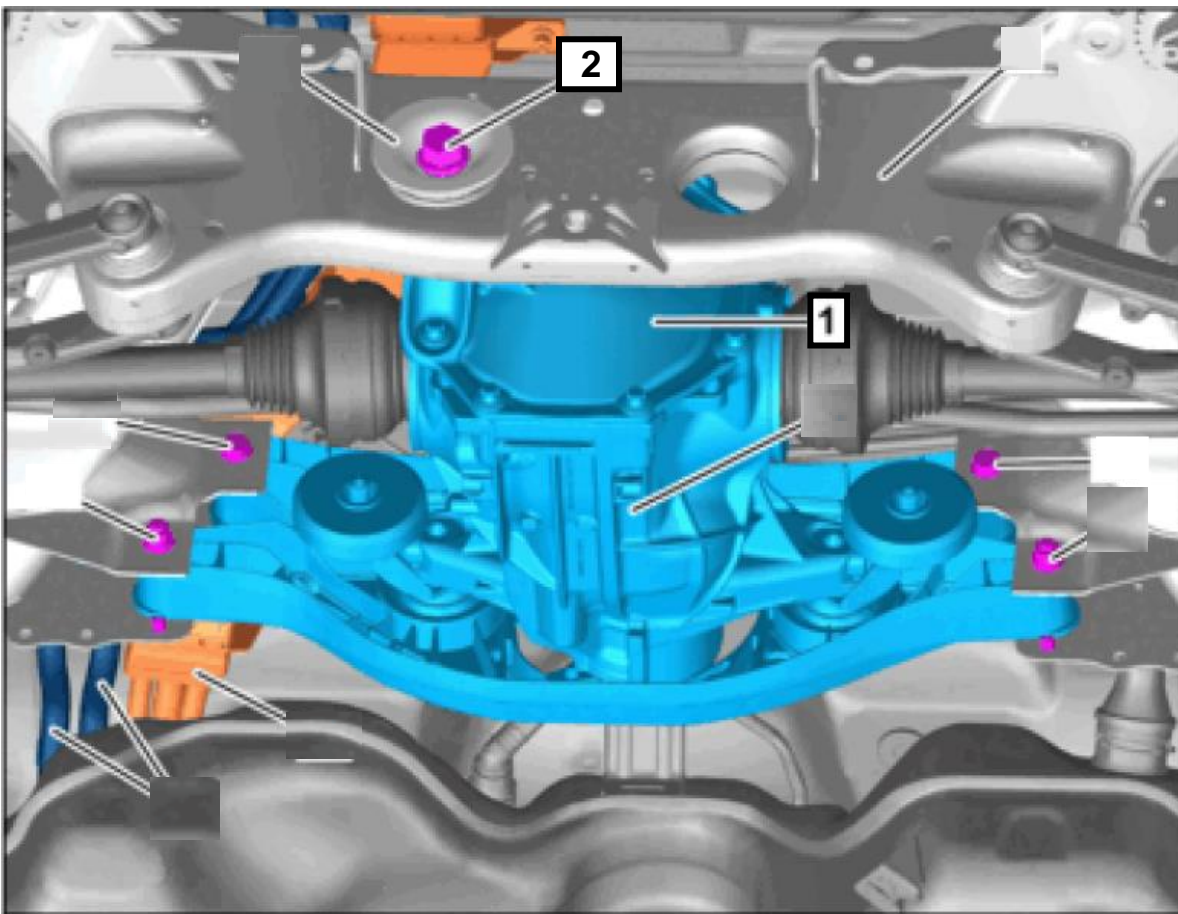

Figure 1
1. Replace rear axle differential end cover (**Figure 1, 1**).
**i** The rear axle differential **screw** to the rear cross brace (**Figure 1, 2**) must always be **replaced**.